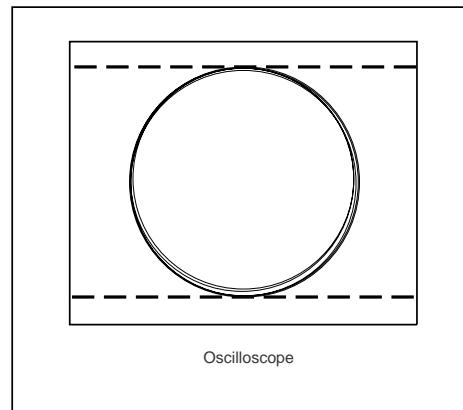

Figure 6. X-Y Mode Output
4.6 Adjust **PT822** (T. GAIN) for the best circle as viewed on the oscilloscope. See Figure 6.